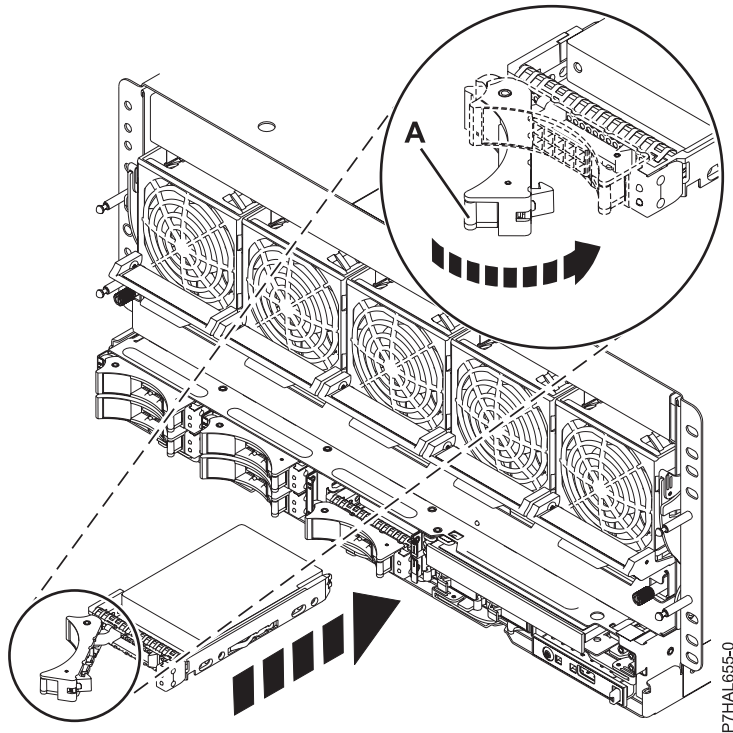

Figure 1. Installing the disk drive in the system
3. Unlock the drive handle (A) by squeezing it and pulling it out toward you. If the handle is not all the way out, the drive does not slide into the system or expansion unit.
7. When the identify LED turns on solid, slide the drive all the way into the system or an expansion unit, and push the drive handle in until it locks. See Figure 1 on page 8 showing installing a drive in the system.